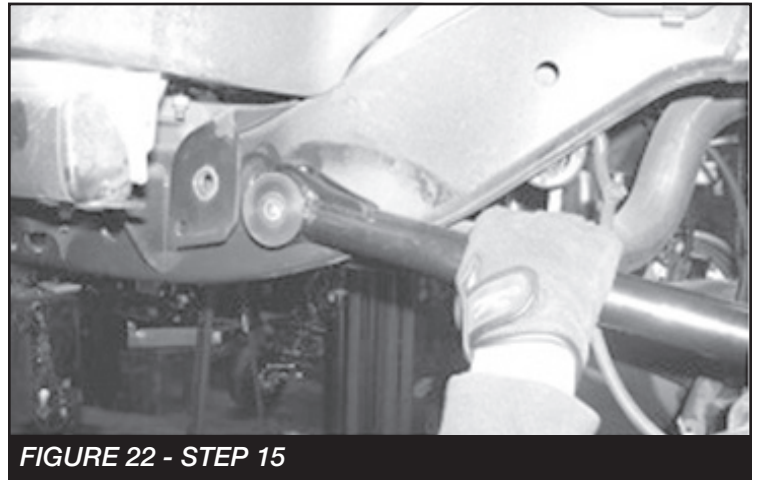

FIGURE 22 - STEP 15
15. Locate FT50725 (upper links) and install (2) FT50567 (9/16" ID Short) misalignments into each end. Install the new links using the factory bolts and hardware. Torque to 153 ft-lbs. **SEE FIGURE 22**